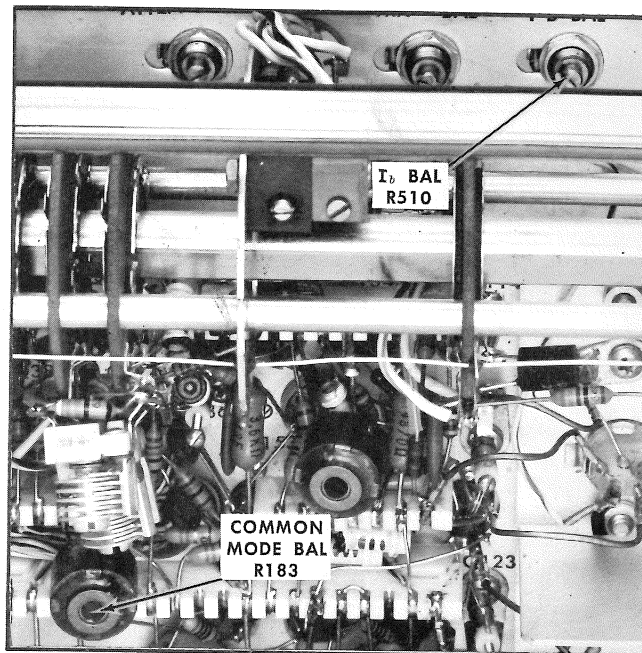

Fig. 5-6. Location of adjustments for performing steps 7 and 8.
- b. Adjust the I_b BAL R510 (see Fig. 5-6) to over-correct by two times the initial trace shift.
- c. Set the +INPUT switch to GND and observe if the trace returns quickly to its original position. If it does not, adjust the COMMON MODE BAL R183 control (see Fig. 5-6) for proper results.